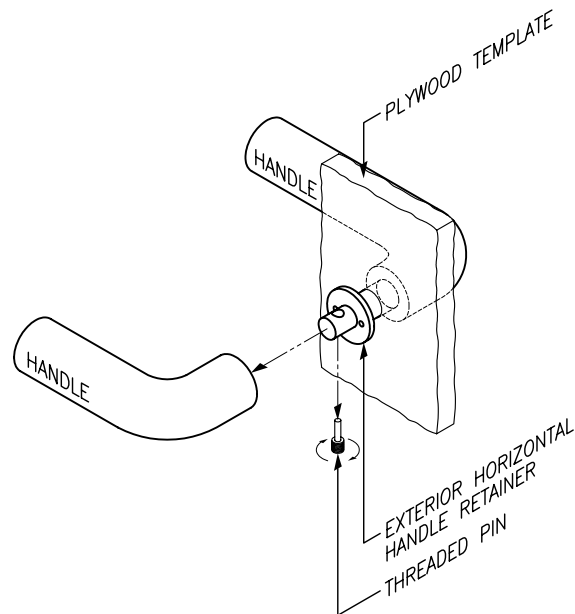

FIGURE 1
1. REMOVE THREADED PIN FROM BOTTOM OF H-100 HORIZONTAL PORTION (FIGURE 1). GENTLY PULL HORIZONTAL PORTION AWAY FROM PLYWOOD TEMPLATE.